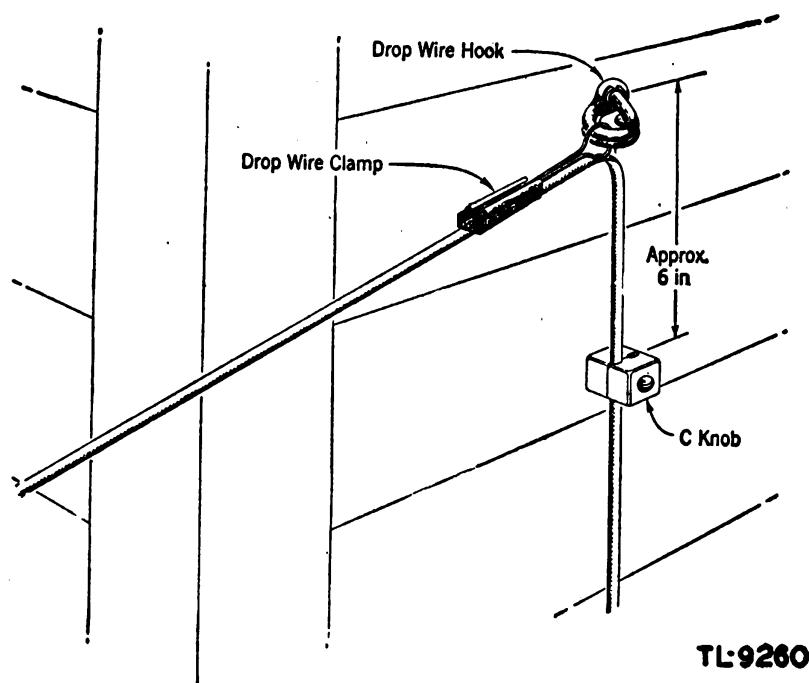

Figure 67. First attachment in unexposed area on building.
(3) When installing a first attachment on an unexposed run on a frame building, use a drop wire clamp to support the pole-to-building span and place a "C" knob on the run about 6 inches from the drop wire clamp. (See fig. 67.)